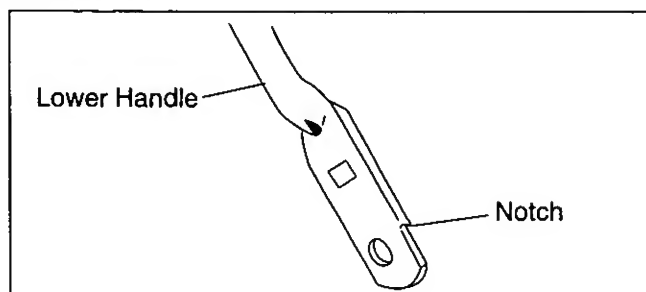

Figure 7
- Turn the lower handle around so that the notch on the bottom of the lower handle is facing forward as shown in Figure 7. Reassemble placing the bottom holes in the handle over the weld pins in the handle mounting bracket.